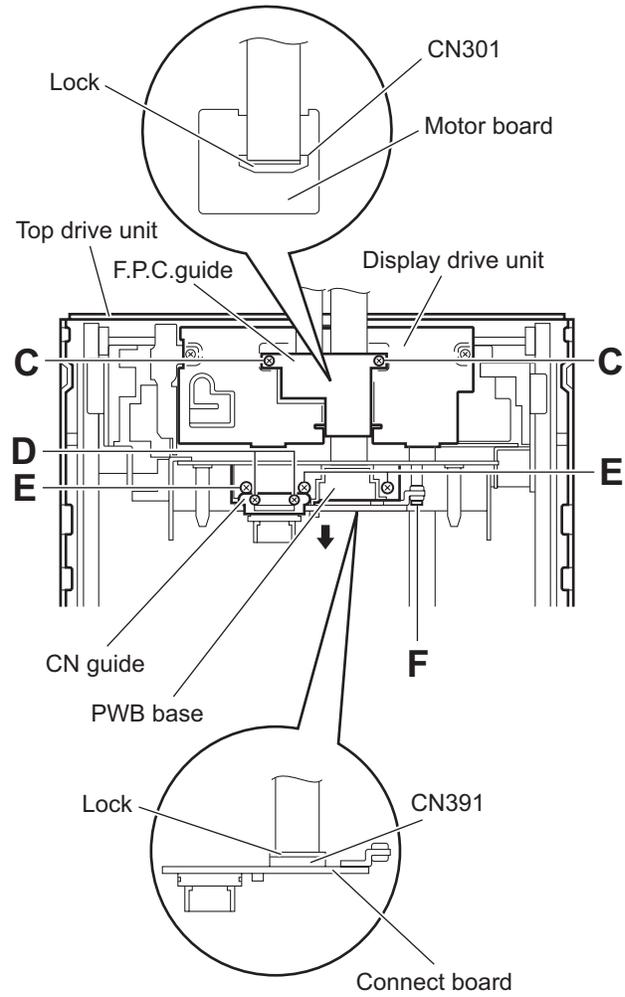

Fig.8
- (3) Remove the top drive unit from the main body and turn it inside out. (See Fig.8.)
- (4) Remove the two screws **C** attaching the F.P.C. guide on the display drive unit. (See Fig.8.)
- (5) Release the lock of the connector CN301 on the mechanism board and disconnect the flexible wire. (See Fig.8.)
- (6) Remove the two screws **D** attaching the CN guide. (See Fig.8.)
- (7) Remove the three screws **E** attaching the PWB base. (See Fig.8.)
- (8) Remove the screw **F** attaching the connect board. (See Fig.8.)
- (9) Take out the connect board in the direction of the arrow. (See Fig.8.)
- (10) Release the lock of the connector CN391 on the connect board and disconnect the flexible wire. (See Fig.8.)